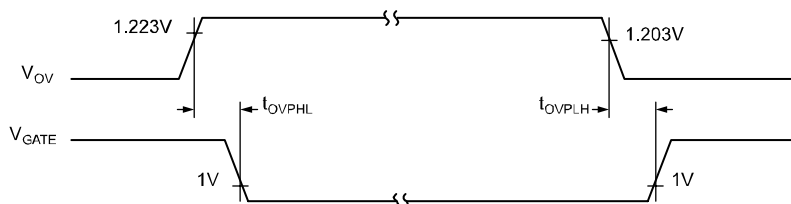

Figure 3. MIC2589/MIC2595 Overvoltage Response
| $t_{OVPHL}$   | OV High to GATE Low (8)(MIC2589 and MIC2589R)Figure 3   | OV = 1.5V                                                 |     | 1   |     | $\mu s$ |
| $t_{OVPLH}$   | OV Low to GATE High (8) ,(MIC2589 and MIC2589R)Figure 3 | OV = 1.0V                                                 |     | 1   |     | $\mu s$ |